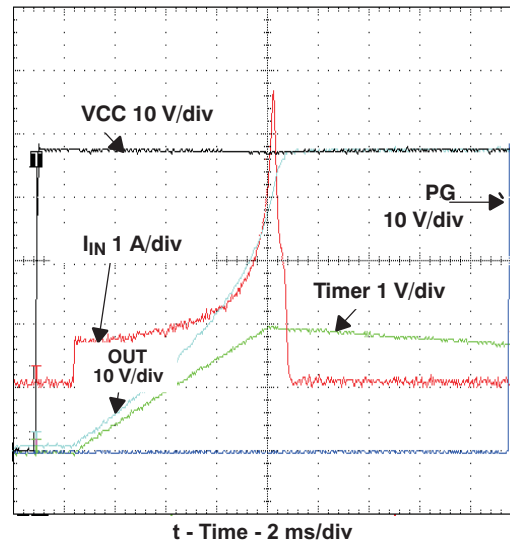
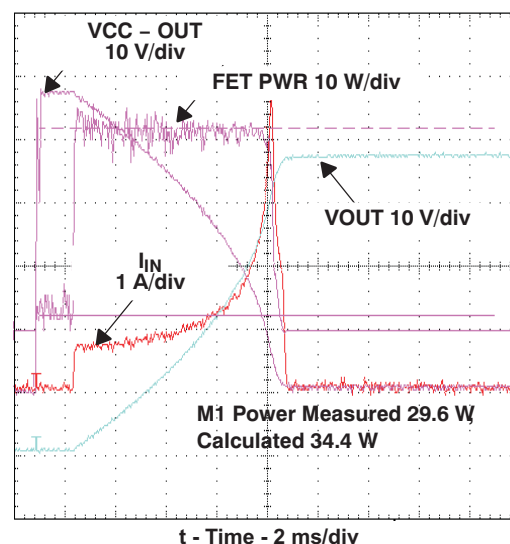
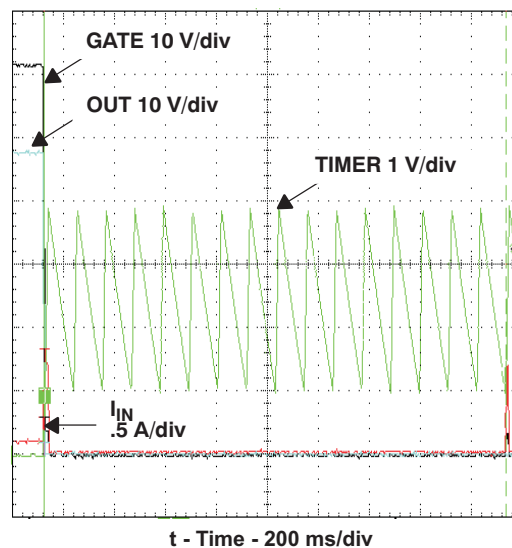

Figure 12. Basic Board Insertion
Figure 13. Computation of Q1 Stress During Startup
Figure 16. TPS2491 Restart Cycle Timing
A capacitor may be tied from PROG to ground to alter the natural constant power inrush current shape. If properly designed, the effect is to cause the leading step of current in Figure 12 to look like a ramp.
The typical application circuit, and oscilloscope plots of Figure 12 through Figure 16 demonstrate many of the functions described Device Functional Modes.
7.4.1 Board Plug-In (Figure 12)
7.4.2 TIMER and PG Operation (Figure 12)
7.4.3 Action of the Constant Power Engine (Figure 13)
The calculated power dissipated in Q1, $V_{DS} \times I_D$, is computed under the same startup conditions as Figure 12. The current of Q1, labeled I_{IN} , initially rises to the value that satisfies the constant power engine; in this case it is $34 \text{ W} \div 48 \text{ V} = 0.7 \text{ A}$. The 34 W value is programmed into the engine by setting the PROG voltage using Equation 2 given in the PROG. V_{DS} of Q1, which is calculated as $V_{(SENSE-OUT)}$, falls as C_O charges, thus allowing the Q1 drain current to increase. This is the result of the internal constant power engine adjusting the current limit reference to the GATE amplifier as C_O charges and V_{DS} falls. The calculated device power in Figure 13, labeled FET PWR, is seen to be flat-topped and constant within the limitations of circuit tolerance and acquisition noise. A fixed current limit is implemented by clamping the constant power engine's output to 50 mV when V_{DS} is low. This protection technique can be viewed as a specialized form of foldback limiting; the benefit over linear foldback is that it yields the maximum output current from a device over the full range of V_{DS} and still protects the device.
7.4.5 Automatic Restart (Figure 16)
A capacitor can be connected from the PROG pin to ground to reduce the initial current step seen in Figure 12 based on the Typical Application circuit. This method maintains a relatively fast turn-on time without the drawbacks of a gate-to-ground capacitor that include increased short circuit response time and less predictable gate clamping.